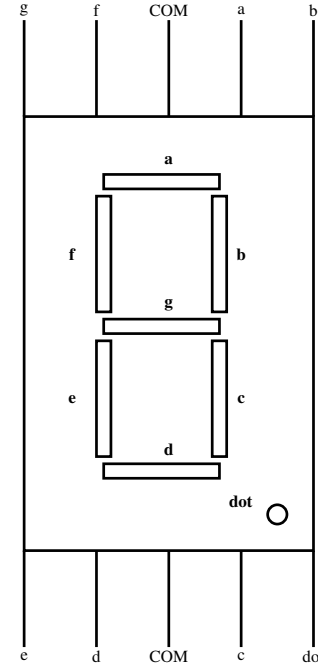
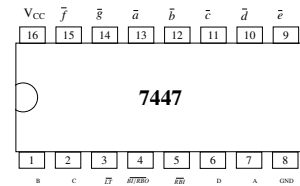

Fig. 2.2: Seven Segment pins
Fig. 3.1
2. Seven Segment Display: The seven segment display in Fig. 2.2 has eight pins, *a*, *b*, *c*, *d*, *e*, *f*, *g* and *dot* that take an active LOW input, i.e. the LED will glow only if the input is connected to ground. Each of these pins is connected to an LED segment. The *dot* pin is reserved for the LED.
1. Make connections between the seven segment display in Fig. 2.2 and the 7447 IC in Fig. 3.1 as shown in Table 3.2